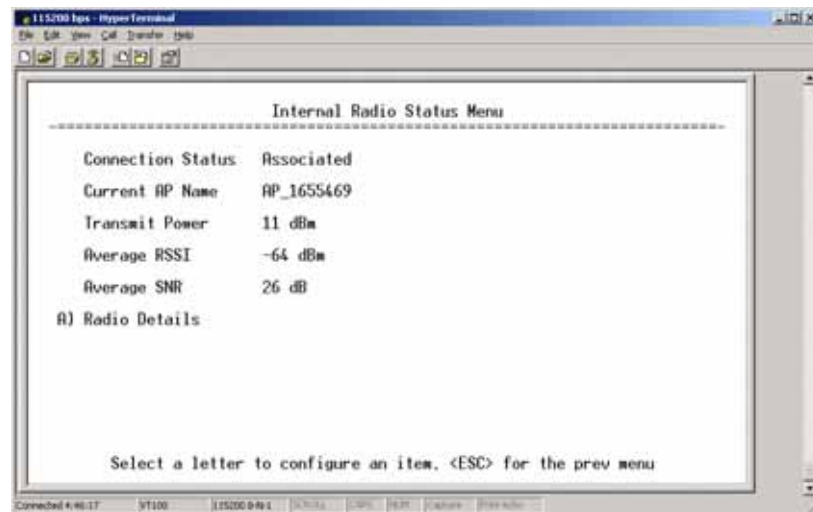

Figure 3-94. Internal Radio Status (Remote Only)
- **Internal Radio Status (Remote Only)**—Shows connection status, RF parameters, and total FEC count for the unit. (See Figure 3-94 on Page 119 for details.)